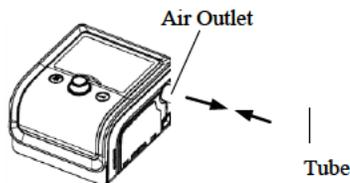
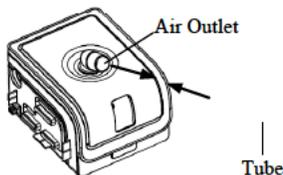

Fig. 11-4
Fig. 11-5
(1) Connect one end of the tube to the air outlet of the main device, as shown in Fig.11-4. If the main device is used with a humidifier, connect one end of the tube to the air outlet of the humidifier, as shown in Fig.11-5.